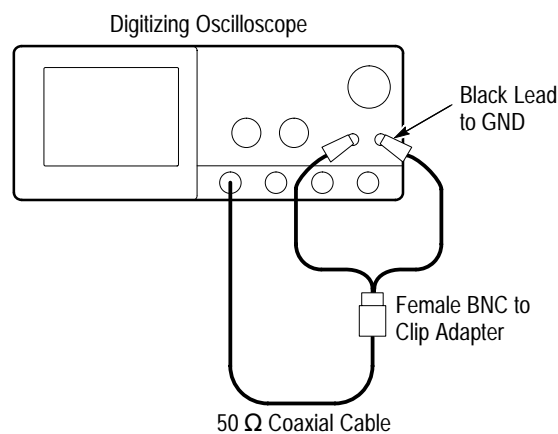

Figure 1–21: Initial Test Hookup
- Connect one of the 50  $\Omega$  cables to **CH 1**. See Figure 1–21.
- Connect the other end of the cable just installed to the female BNC-to-clips adapter. See Figure 1–21.
- Connect the red clip on the adapter just installed to the **PROBE COMPENSATION SIGNAL** on the front panel; connect the black clip to **PROBE COMPENSATION GND**. See Figure 1–21.